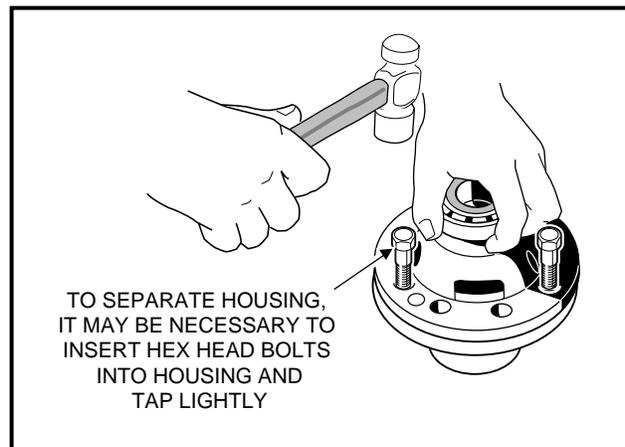

Figure 16-18 Separate Housing
- 9.4. Separate the differential gear case housing. If necessary, reinstall two of the hex bolts (removed previously in step 9.2.) into the differential gear unit and, while holding the unit slightly above the work area, lightly tap the bolt heads (Figure 16-18, Page 16-10). Remove the two bolts.